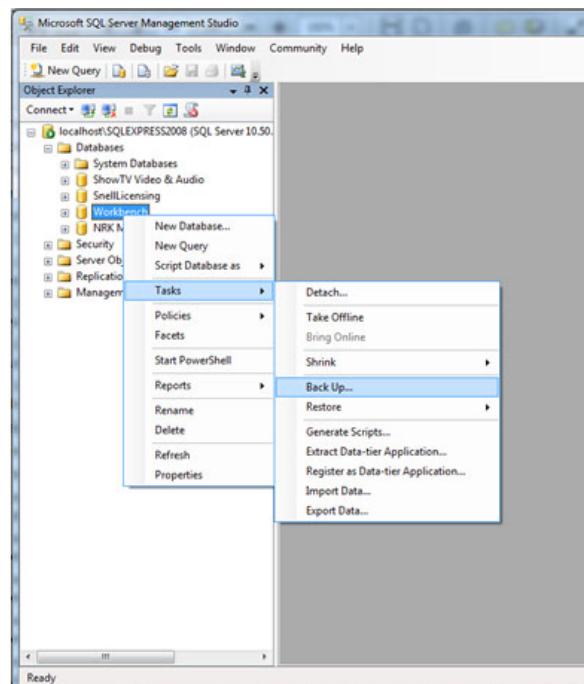

Figure 41 SQL Server Management Studio
4. Right click on the Workbench database and select **Tasks | Back Up...** (see Figure 41)